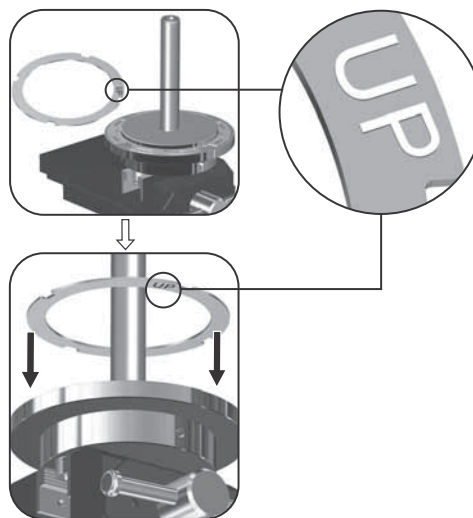

Fig. 32 Placing neck ring (45) with the text "UP" pointing down towards the neck-ring retainer (65)
4. Place the neck ring (45) on top of the neck-ring retainer (65). Note: The text "UP" which is stamped into the neck ring (45) must point down towards the neck ring (65). See fig. 32.